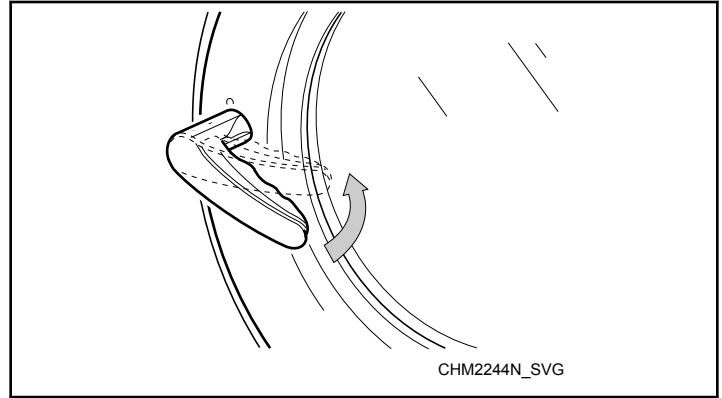

Figure 54
4. Close the door and turn handle counter clockwise. Refer to *Figure 54*.